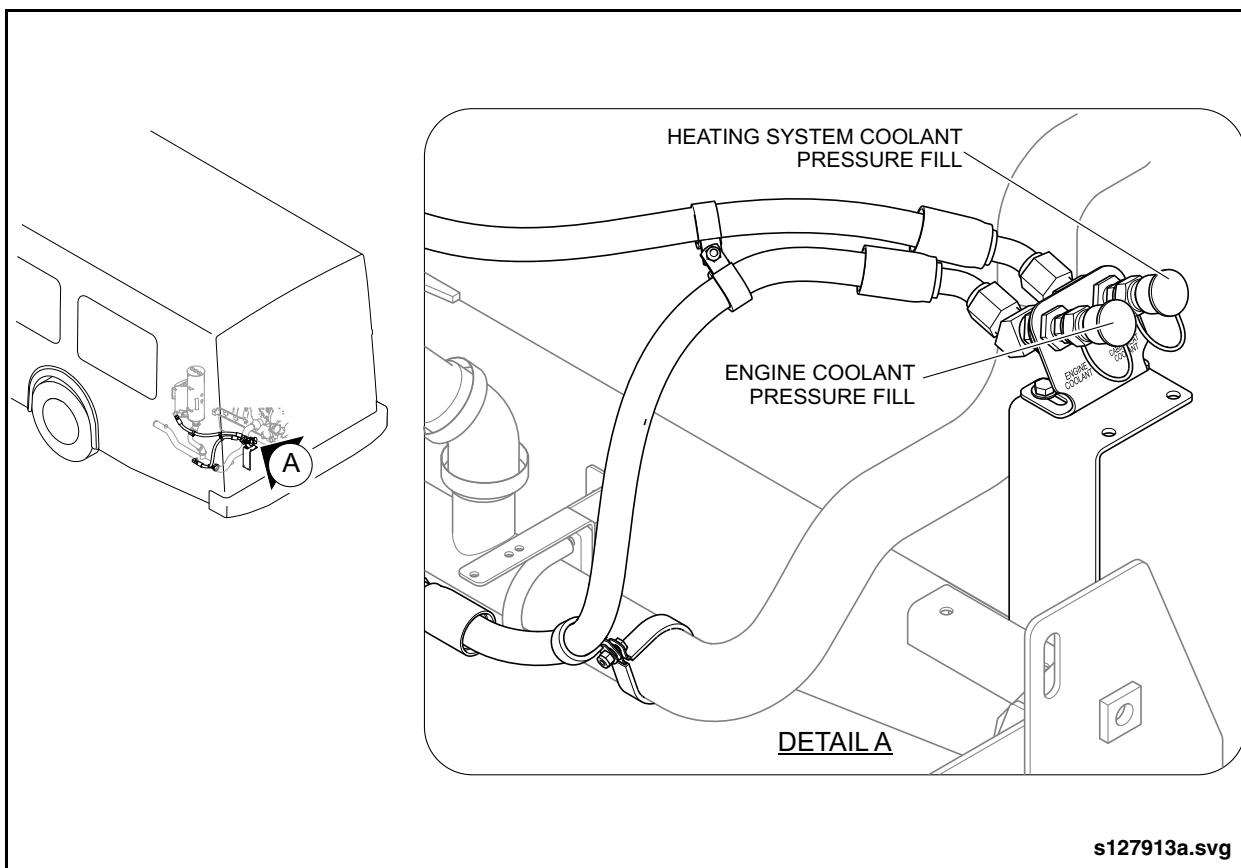

Fig. 10-1: Pressure Fill Connectors
10. Locate the vehicle heating system pressure-fill connector in the engine compartment. See "Fig. 10-1: Pressure Fill Connectors" on page 9.